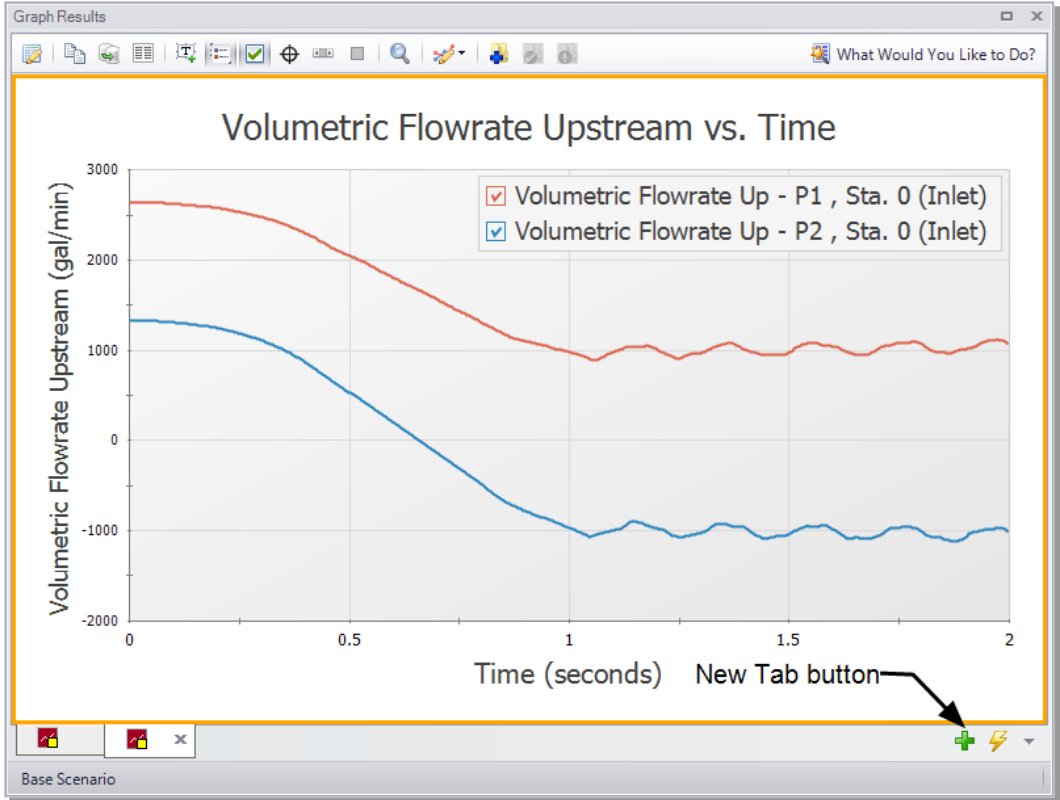

Figure 2.30 Transient flowrates out of the reservoirs
- **Create a new graph tab** by clicking the “New Tab” button which is the green plus icon (+) located on the bottom-right, immediately below the graph area (Figure 2.30).
- **Click the Generate** button to display the graph. A graph of these stations shows the flowrates out of the two supply reservoirs. Note that after the valve closes, the fluid in the J1 Reservoir flows to the J2 Reservoir (Figure 2.30).